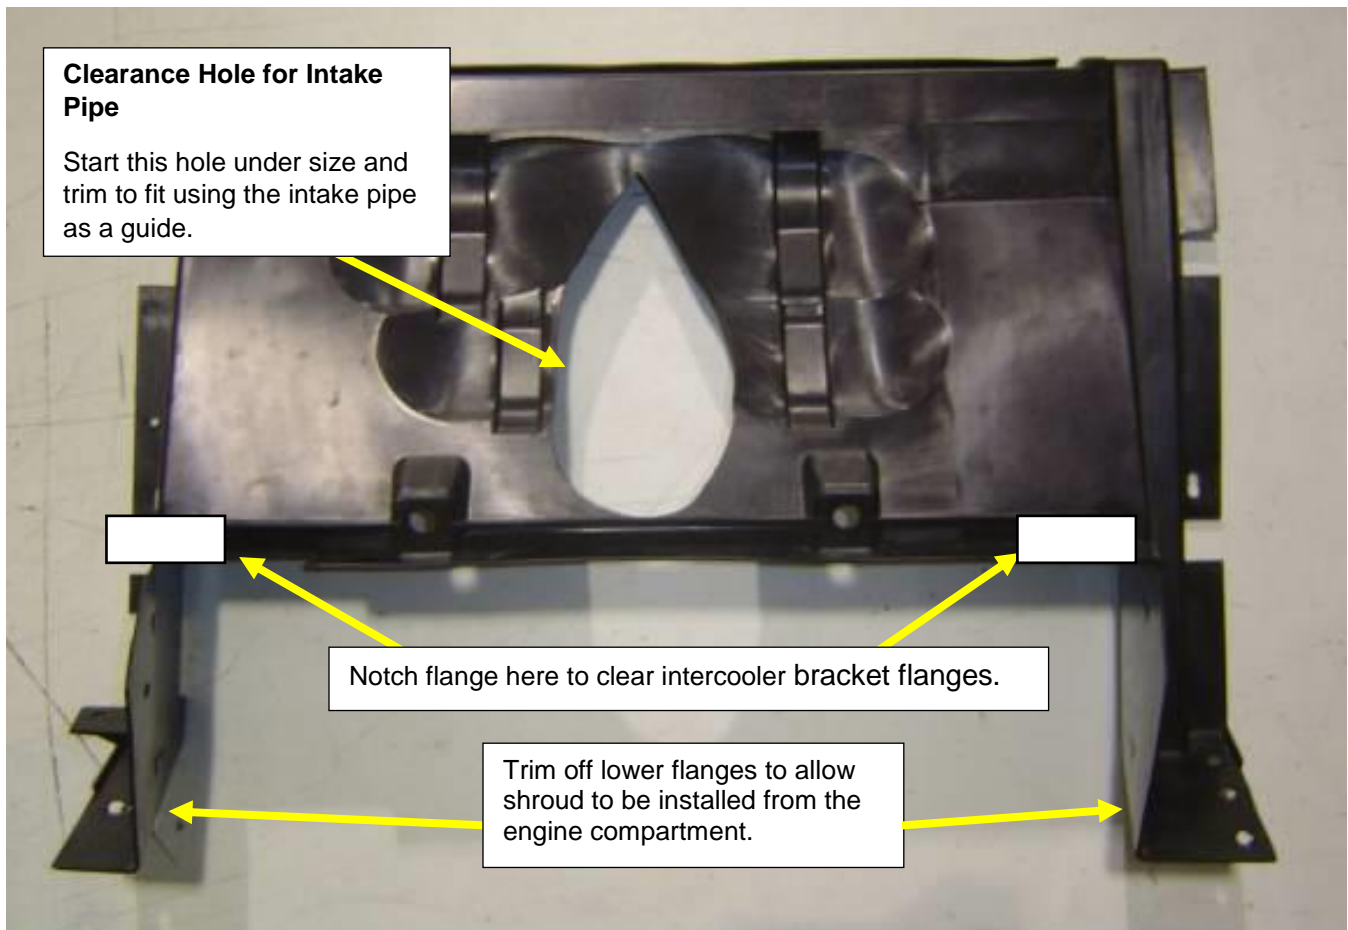

Figure 24
1. Trim the upper radiator shroud (**Figure 24**).